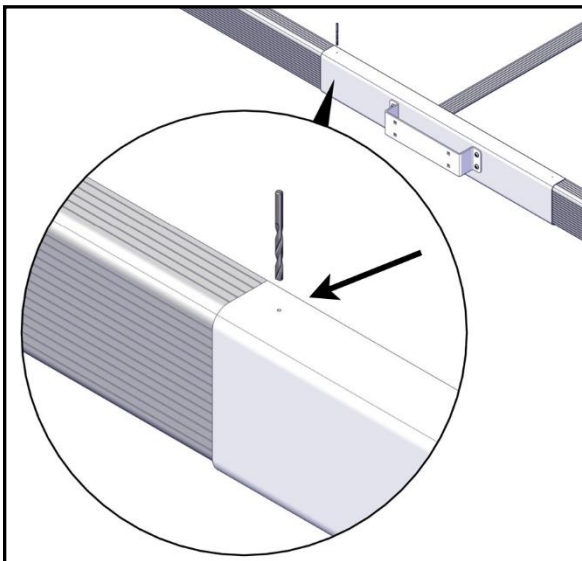

FIGURE 59: HOLE DRILLING THROUGH THE C-CHANNEL
6. Use the provided 5/32" drill bit to drill the holes on the top and bottom of the support bracket see Figure 59. Use the pre-drilled holes in the support bracket as guidance.